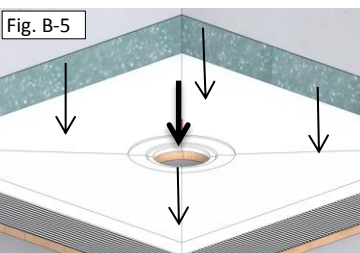

Fig. B-5
- Place the tray in position and make sure that tray gets solidly embed in the Unmodified Thin-Set Mortar (Fig. B-5)